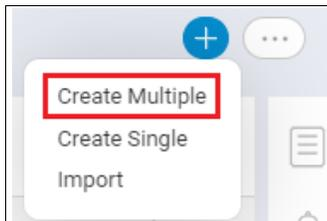

Figure 5-25 Create Multiple aliases option
3. Click the **+** icon in the upper right of the window, and then select the **Create Multiple** option, as shown in Figure 5-25.